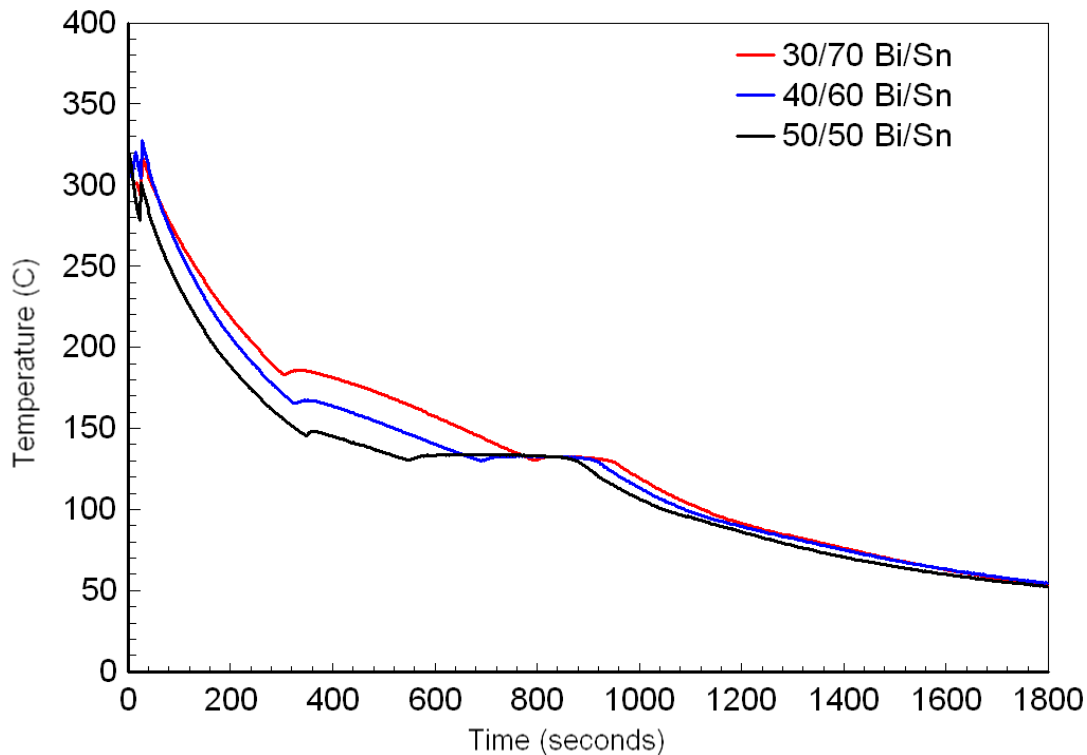

Figure 1 Cooling curves for three compositions in the Bi/Sn system.
- The scanner software can save the data as a comma-separated ASCII file (*.csv) or as a standard text (*.txt) file. If you chose the former then simply double-clicking the file's icon should start Excel (or whichever spreadsheet you use) which will import and parse the data. The organization of the data makes plotting the cooling curves easy. These graphs can be easily cut and pasted into your report. Figure 1 is an example of such a plot.
- The primary basis for your analysis of the cooling curves is change in the cooling rate. Since the cooling rate is equal to the slope of the cooling curves, it would be easy to produce a second graph that plots cooling rate versus time, or one could plot the cooling rate on the above graph but plotted using the second (right-hand) y-axis. See figure 1 for an example.